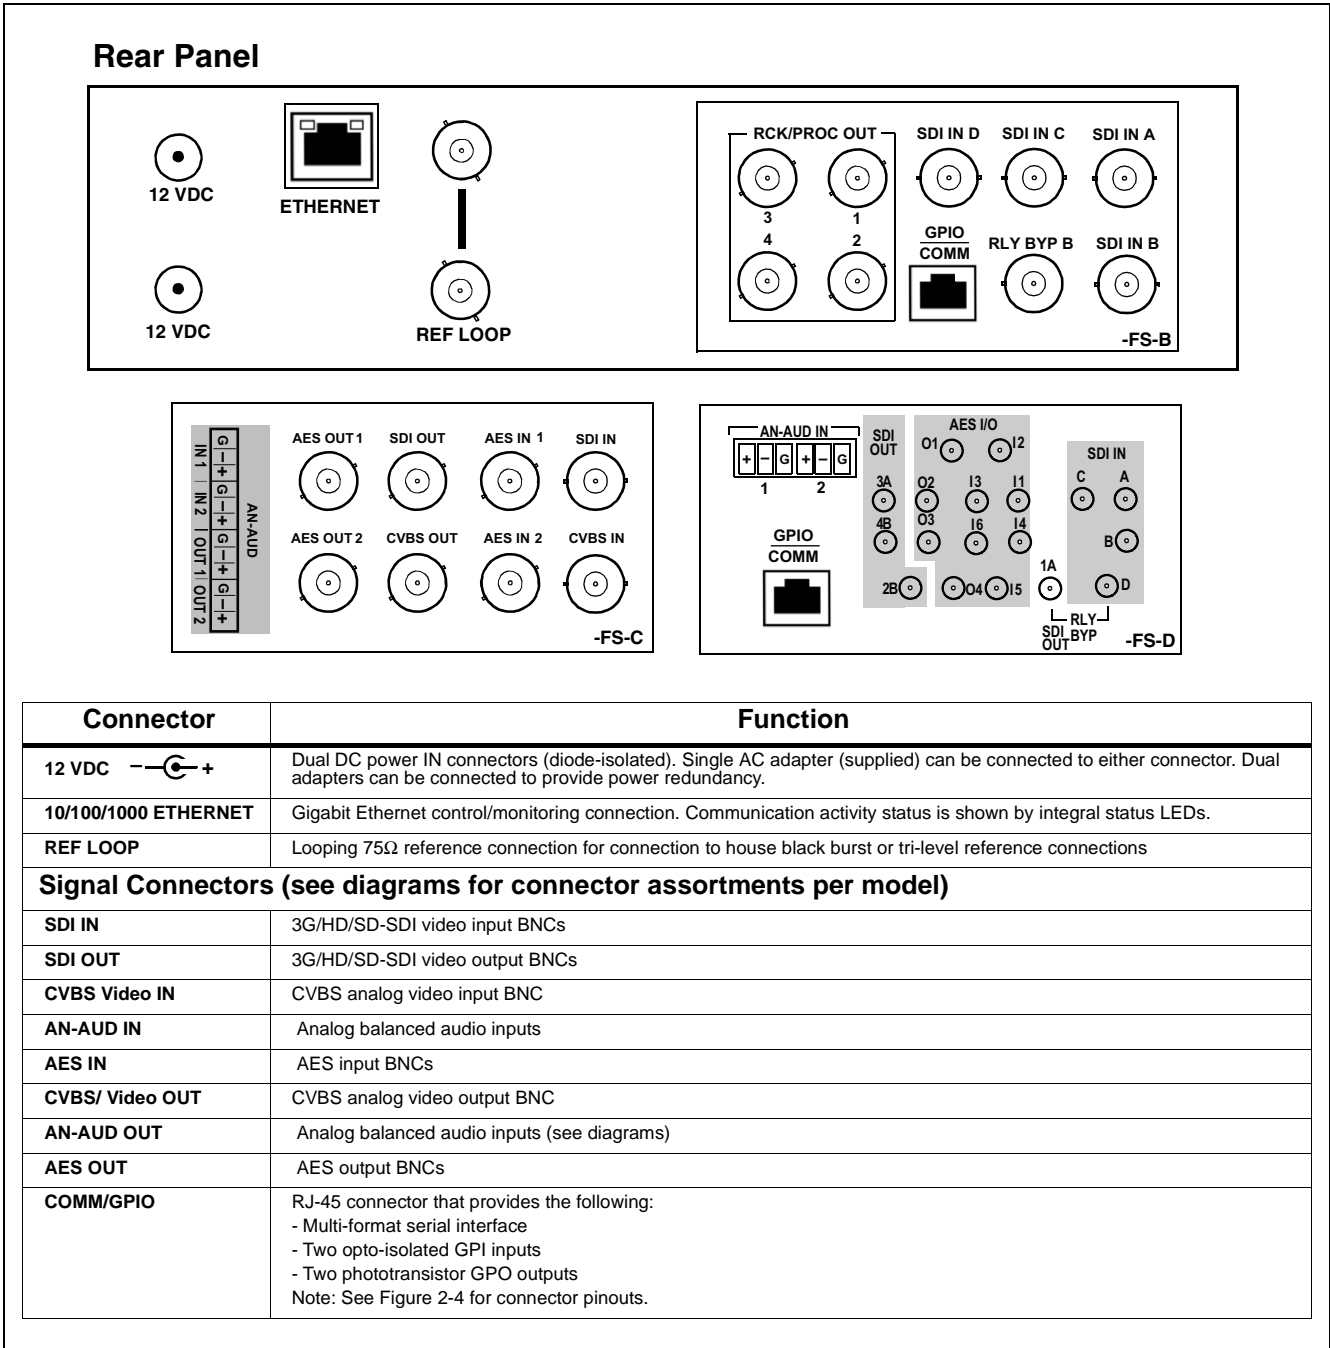

Figure 2-3 BBG-1032-EMDE Rear Panel Connectors
2. Connect the input and output cables as shown in Figure 2-3.
Perform rear panel cable connections as shown in Figure 2-3.